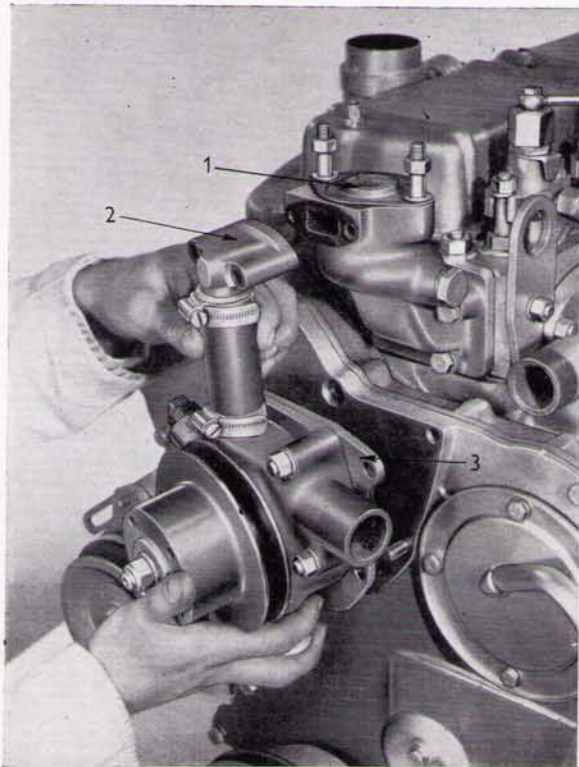

Fig. Q.2.
4. Undo the one setscrew, and three nuts, securing the water pump to the timing case cover, and remove the pump complete with back plate and by-pass adaptor. See Fig. Q.2.